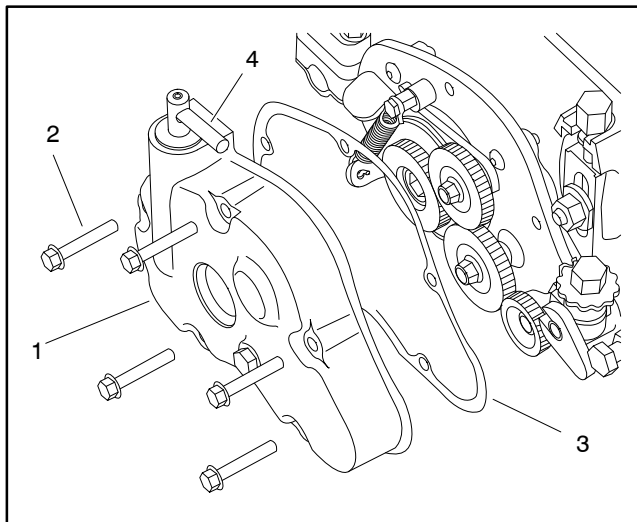
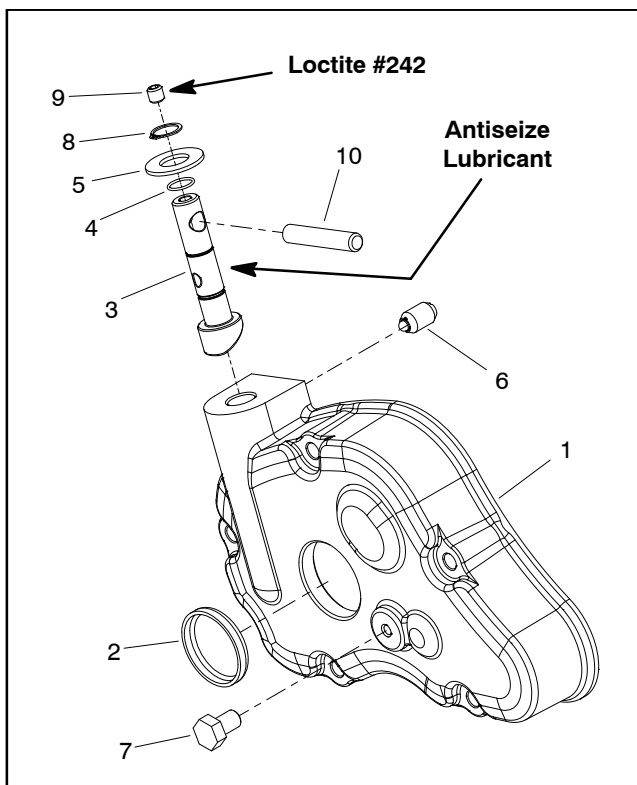

Figure 4
Figure 5
4. Remove groomer cover assembly from machine (Fig. 4):
A. Remove five (5) flange head screws that secure groomer cover assembly to RH drive plate.
5. If necessary, remove shaft from groomer cover (Fig. 5):
A. Loosen set screw (item 9) on top of shaft and slide handle from shaft.
B. Remove retaining ring (item 8) and thrust washer (item 5) from shaft.
C. Remove plunger detent (item 6) from groomer cover.
D. Slide shaft out of groomer cover. Remove and discard O-ring (item 4) from shaft.
1. If removed, install shaft into groomer cover (Fig. 5):
2. Install groomer cover assembly to RH drive plate assembly (Fig. 4):
- B. Fill groomer cover with approximately five (5) ounces (142 grams) of Mobil XHP221 grease (or equivalent).
- C. Install new gasket and then groomer cover assembly to RH drive plate. Secure cover with five (5) flange head screws.